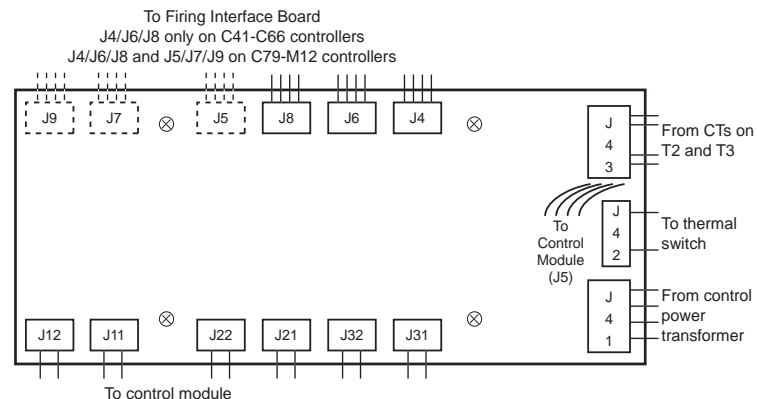

Figure 58: Current Measurement Board
1. Disconnect the plugs from the current measurement board. See Figure 58.